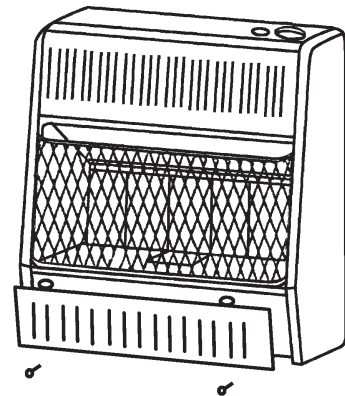

Figure 6 - Mounting Bracket Clearances (inches)
2. Pull bottom of lower front panel forward, then down (see Figure 6).